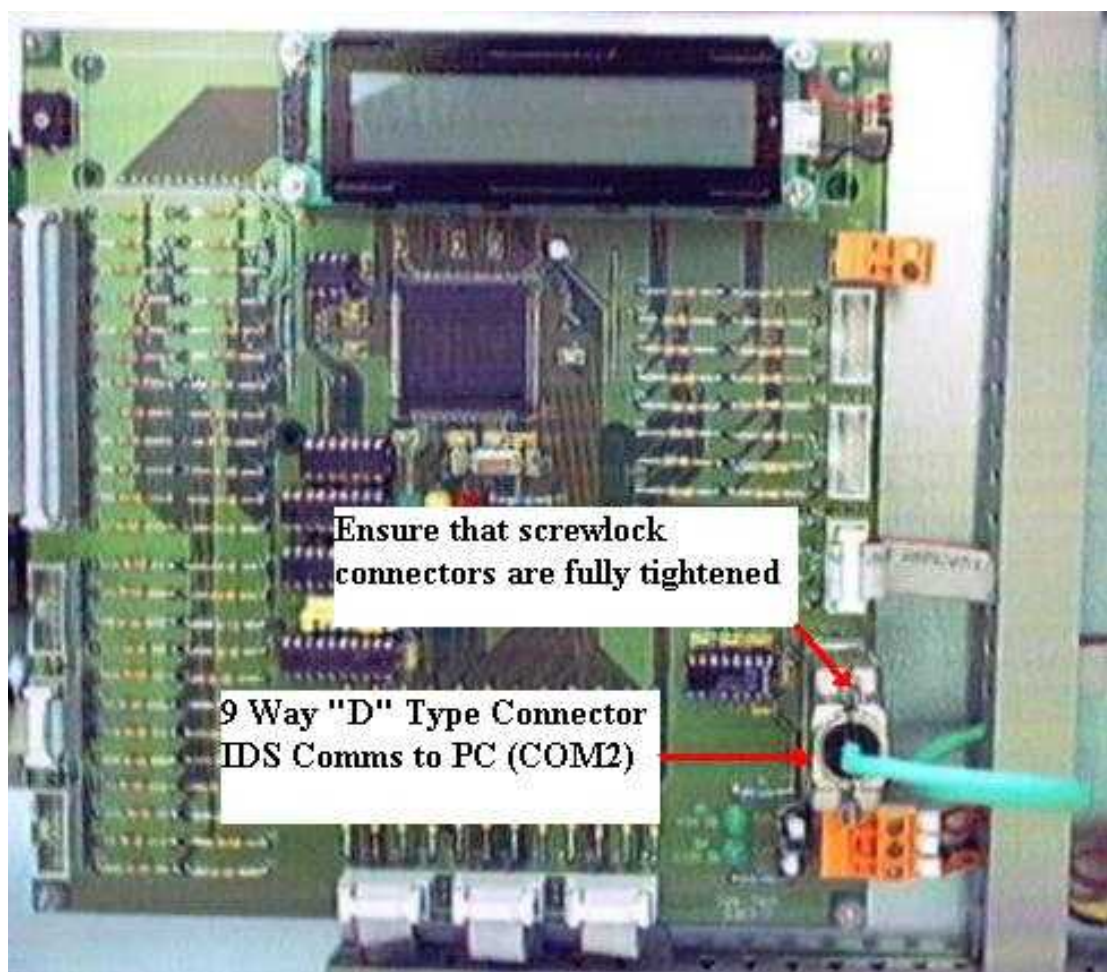

Figure 1. Shows the IDS COM1 cable connected to the IDS Controller PCB inside the Control box chassis of the IDS
2. Check that the COM1 cable is securely connected from Control box chassis to the IDS Controller PCB Board located inside the Control box chassis (See Figure 1.)